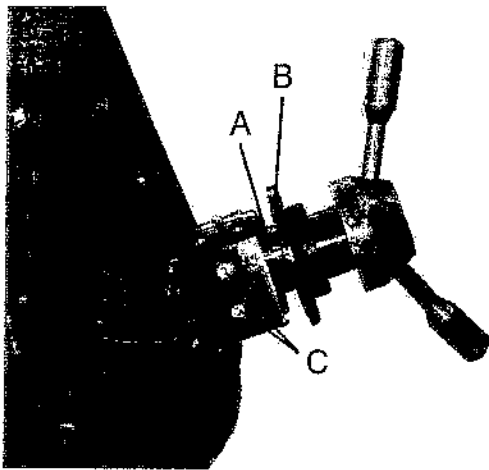

Fig. 5
2. Loosen the two set screws (C - Fig. 5) to release the limit switch.
3. Move the limit switch toward the block plate (B - Fig. 5) and make sure the trigger button (A - Fig. 5) of the limit switch is near the block plate.